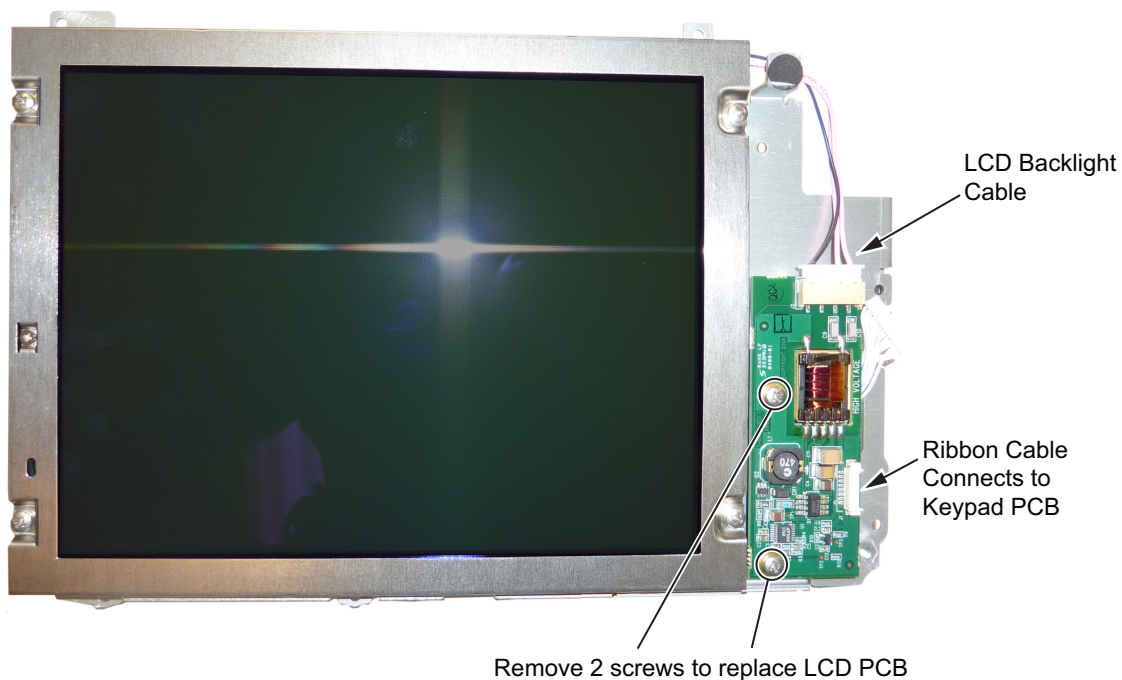

Figure 5-15. Replacing the LCD PCB
5. Use a Phillips screw driver to remove the two screws securing the LCD backlight PCB to the LCD bracket (Figure 5-15).